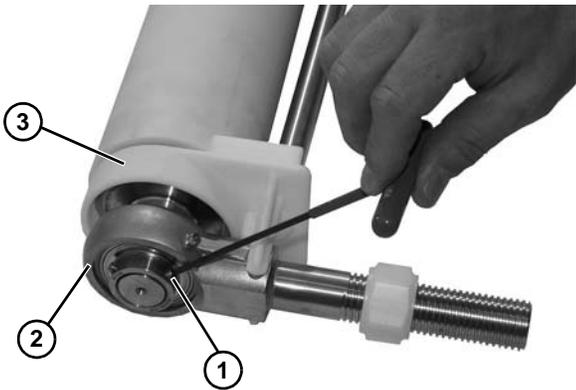

Figure 64
- Use a 4 mm hex wrench to loosen the bearing fasteners (Figure 64, item 1).
- Remove the bearing shaft (Figure 64, item 2) and pinch guard (Figure 64, item 3).